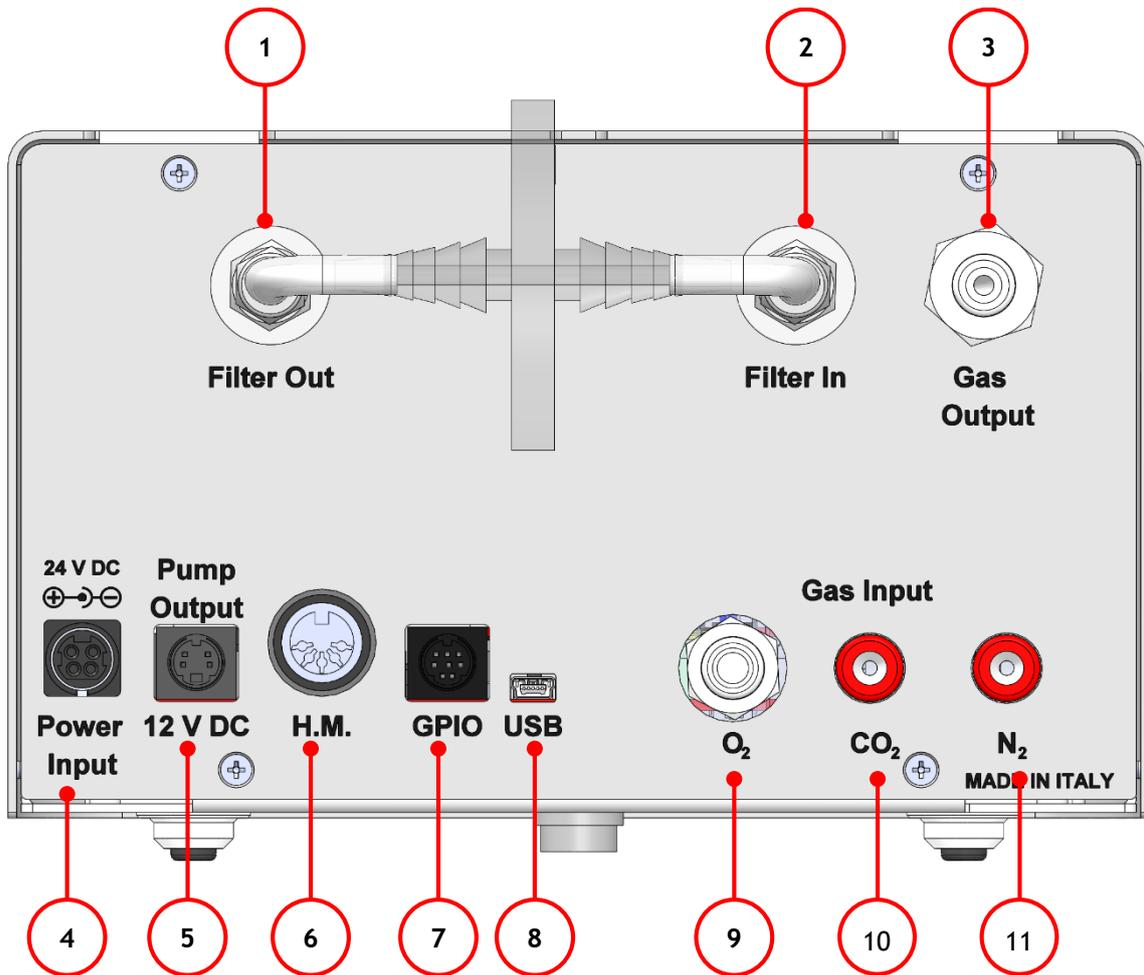
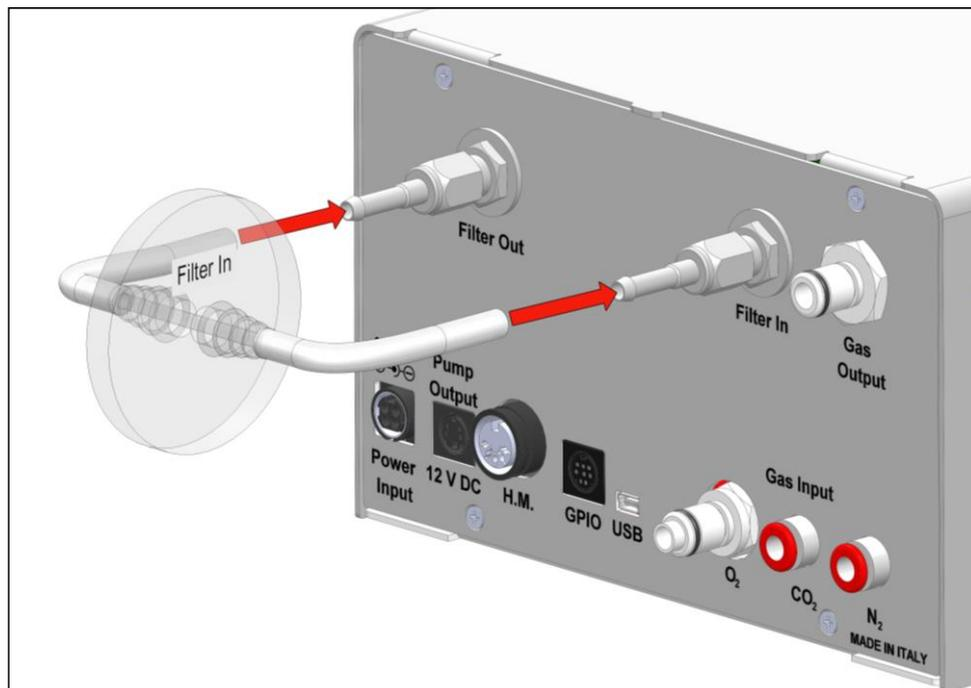
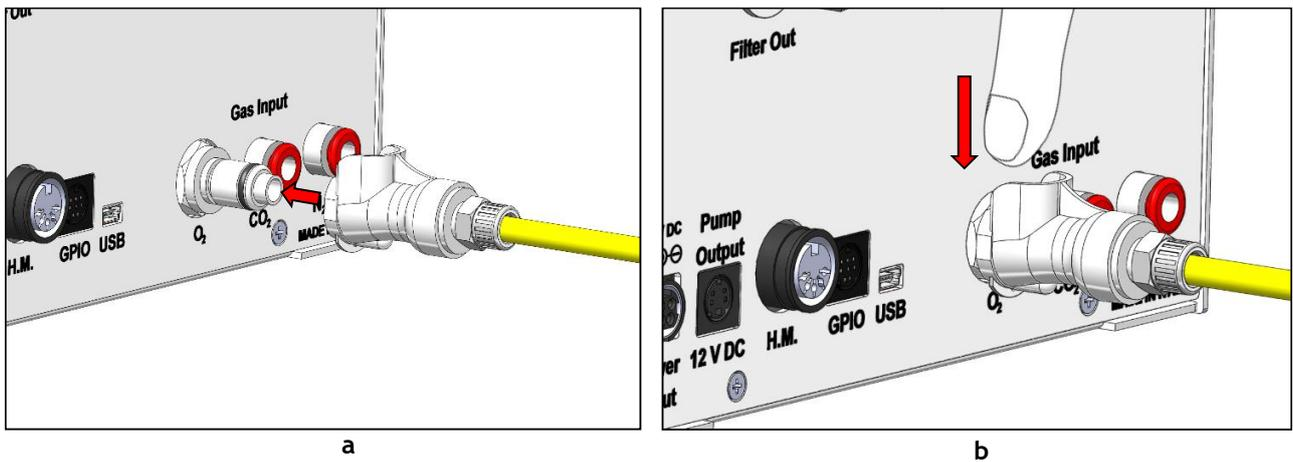

Figure 5. Gas Controller Rear Panel Overview.
Figure 9. How to install TUBE-CB.
Figure 11. How to connect (a) and disconnect (b) tubings from valved in-line connectors.
Figure 5 illustrated CO2-O2-UNIT-BL [0-20; 1-95] rear panel:
2. Install the **TUBE-CB** on the rear panel of CO2-O2-UNIT-BL [0-20; 1-95]. It filters the mixed gas before it enters in contact with CO2-O2-UNIT-BL [0-20; 1-95] gas sensors. Connect the TUBE-CB with the *Filter In* and *Filter Out* connectors on the rear panel of CO2-O2-UNIT-BL [0-20; 1-95] (1, 2 in Figure 5 and Figure 9). Make sure the *Filter In* label side of the filter is always connected to *Filter In* connector on the rear panel of CO2-O2-UNIT-BL [0-20; 1-95].
4. Connect O₂ supply to the corresponding valved in-line connector on the rear panel of CO₂-O₂-UNIT-BL [0-20; 1-95] (9 in Figure 5) by using TUBE-AF. Push the valved in-line connector of TUBE-AF into O₂ Input on the rear panel of CO₂-O₂-UNIT-BL [0-20; 1-95] until you hear a lockout click (see Figure 11 a). Set O₂ pressure within the range 0.6 – 1 barg (8.7 – 14.5 psig).
To remove tubing from the connector, press on the metallic part on the top of the connector (see Figure 11 b).